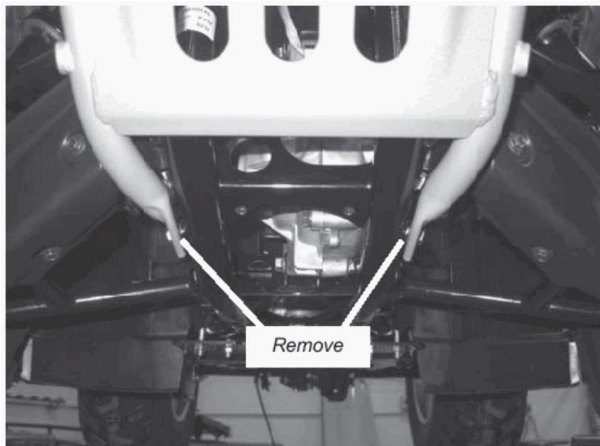

Figure 5 Remove Bottom Bumper Bolts
- Remove the (2) bottom bumper bolts that attach the bumper to the bottom of the ATV frame, “Figure 5”